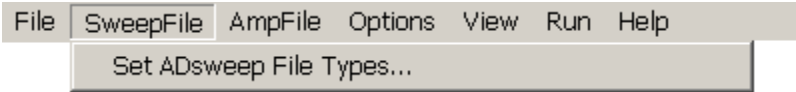

Fig. 3.2.2. SweepFile Menu.
- 2) **S**weep**F**ile Menu for loading, saving and printing individual ADsweep files (Fig. 3.2.2)